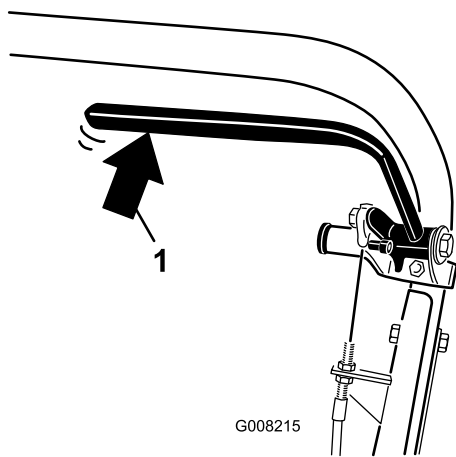

Figure 31
2. Using a spring scale, press rearward on the service-brake lever (Figure 31). The parking brake should release when a force of 13.5 to 18 kg (30 to 40 lb) is attained. If the parking brake releases before 13.5 to 18 kg (30 to 40 lb) of force is attained, an adjustment to the brake cable is required. Proceed to step 3.